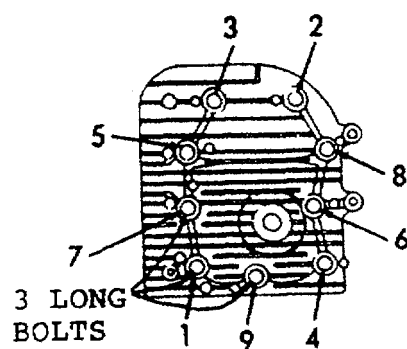

Figure 3-29. Cylinder Head Torque Sequence.
- (3) Place cylinder head gasket (4), cylinder head (3), and shield (2) into position on top of crankcase (10).
- (4) Install nine bolts (1) and bolts (11) into cylinder head (3) and tighten all bolts finger tight.
- (5) When all bolts have been finger tightened, torque all bolts in sequence as shown in Figure 3-29 to 165 inch/pounds (1.90 meter kilopound or 18.65 Newton meter).